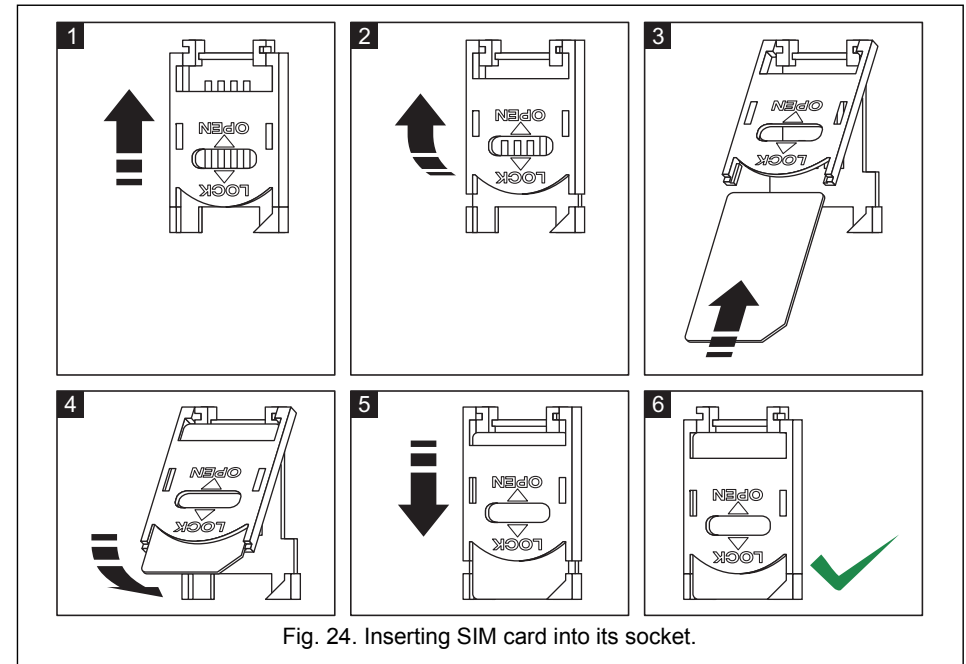

Fig. 24. Inserting SIM card into its socket.
3. Insert the SIM card into the onboard socket (see: Fig. 24). Telephone logging into the GSM network may take a few minutes.